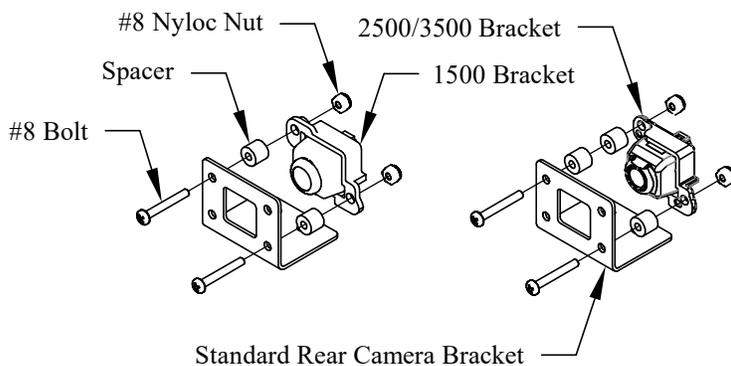

Figure 9: Method to secure standard rear camera in bracket (1500 left, 2500 and 3500 right).
3. **Place** camera into bracket and fix in position using the appropriate supplied fasteners (Figures 9, 10).